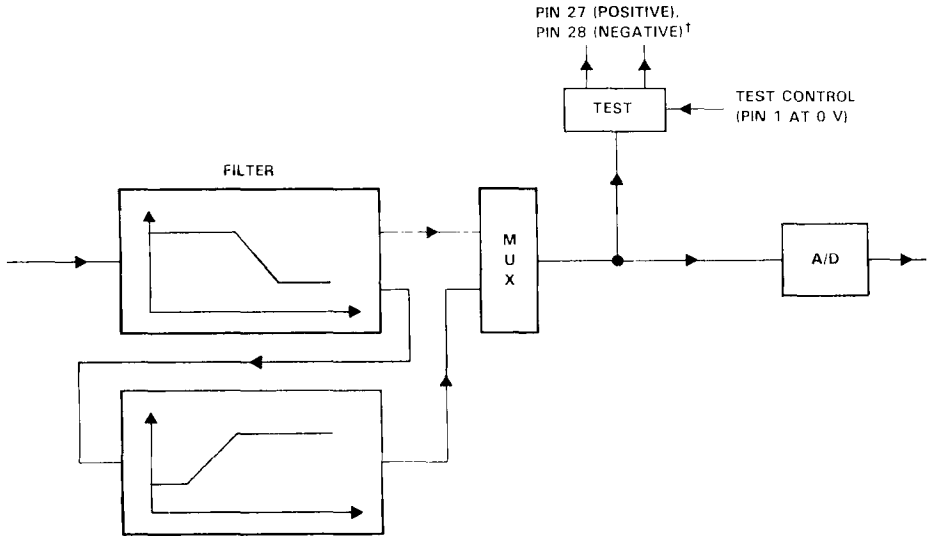

FIGURE 1. BANDPASS OR LOW-PASS FILTER TEST FOR RECEIVER SECTION
In normal operation, the nonusable (NU) pins are left unconnected. These NU pins are used by the factory to speed up testing of the TLC32045 Analog Interface Circuit (AIC). When the device is used in normal (non-test mode) operation, the NU pin (pin 1) has an internal pull-down to -5 V. Externally connecting 0 V or 5 V to pin 1 puts the device in test-mode operation. Selecting one of the possible test or NU modes is accomplished by placing a particular voltage on certain pins. A description of these modes is provided in Table 2 and Figures 1 and 2.